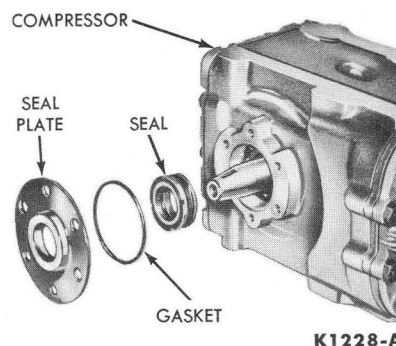

FIG. 19—Crankshaft Seal Replacement
5. Remove the carbon seal ring and seal housing assembly from the crankshaft. A disassembled view of the crankshaft seal assembly is shown in Fig. 19.